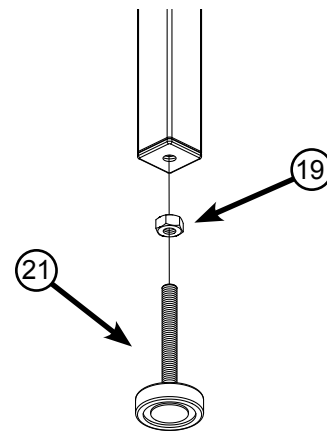

Fig. 11
11. Locate the two support legs and remove the two feet from the T-Glide Table Hardware Pack along with two M8 hex nuts. Thread an M8 hex nut onto the threaded shaft of each foot so that the nut is close to the rubber base, and then thread the foot into the bottom of the support leg as far as possible (see Fig. 11).